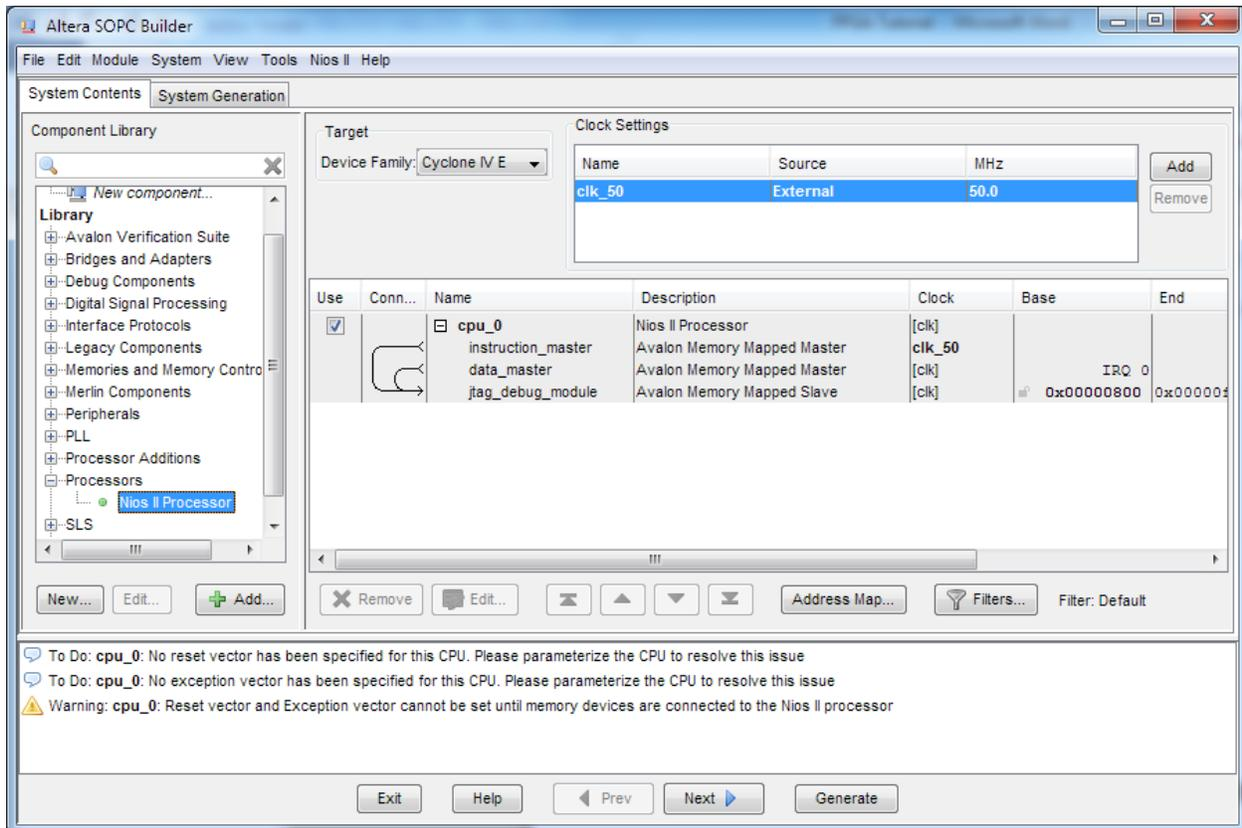

Figure 1-16 Add Nios II CPU completely
9. Click Finish to return to main window as shown in Figure 1-16.